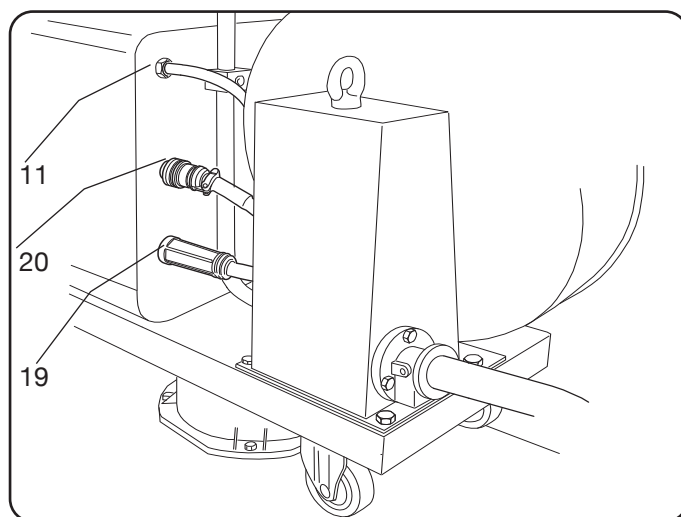

Fig. 5
- ◆ Avoid coiling the connection to minimise inductive effects that could affect welding. Connect the other end of connection BA to the wire feeder (see fig. 5).